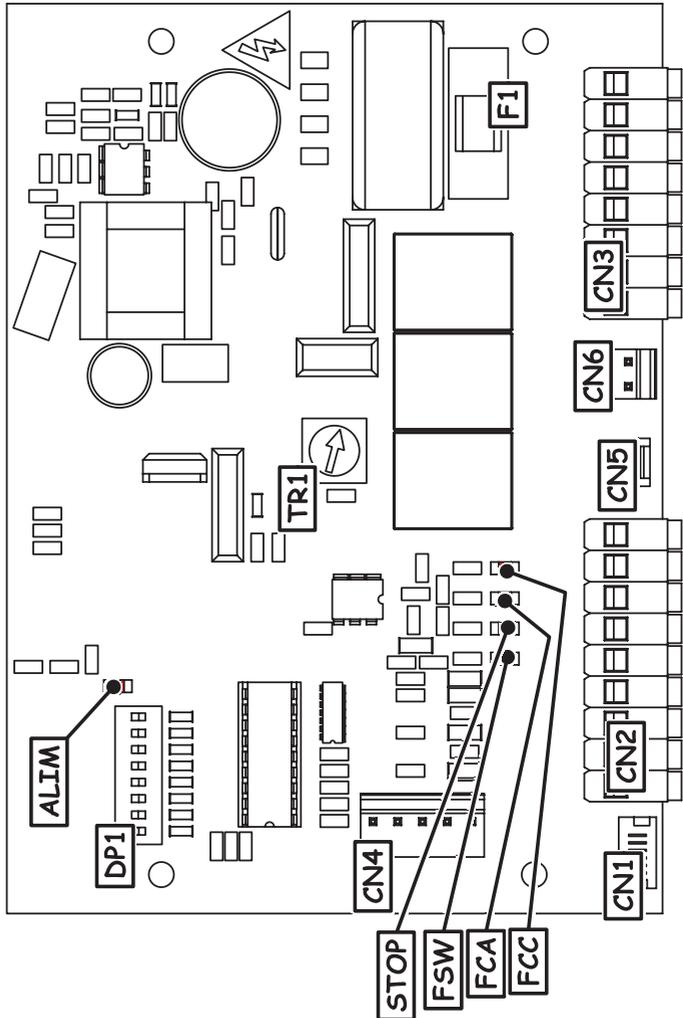

Fig. 1
3. BOARD LAY-OUT (Fig.1)	page 8
3. BOARD LAY-OUT (Fig.1)